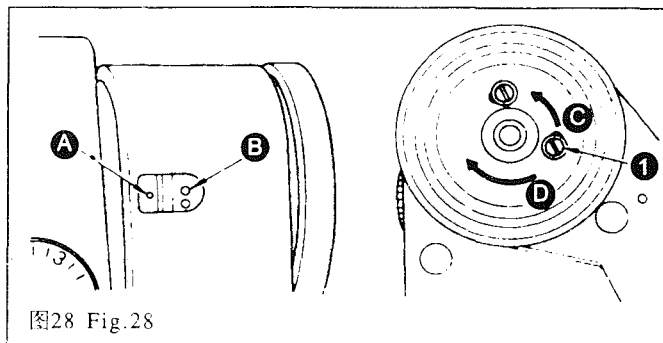
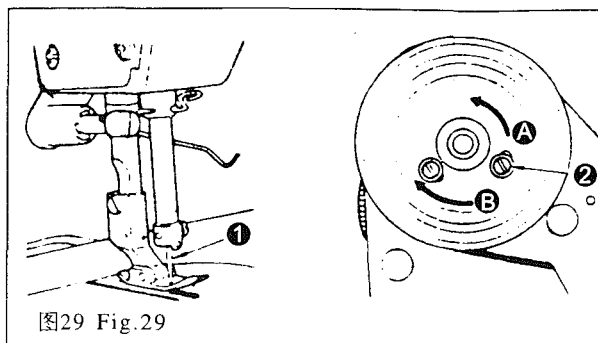

图28 Fig.28
图29 Fig.29
1) If the mounting position of the counter knife is moved in direction (A) from the standard mounting position, the thread length after thread trimming will be increased accordingly.
2) If the mounting position is moved in direction (B), the thread length will be decreased accordingly.
22. 停针位置的调整(图28、图29)
22. ADJUSTING THE NEEDLE STOP POSITION (Fig.28, Fig.29)